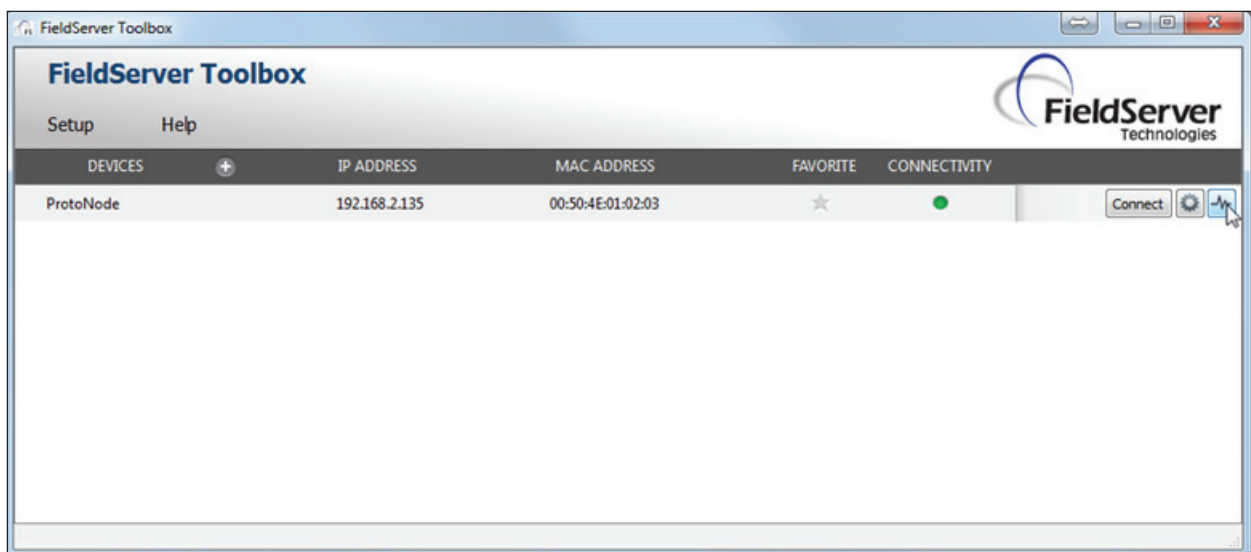

Figure 23: FieldServer Toolbox - Diagnostic Icon
8. Click on the diagnose icon  of the desired device. See **Figure 23**.